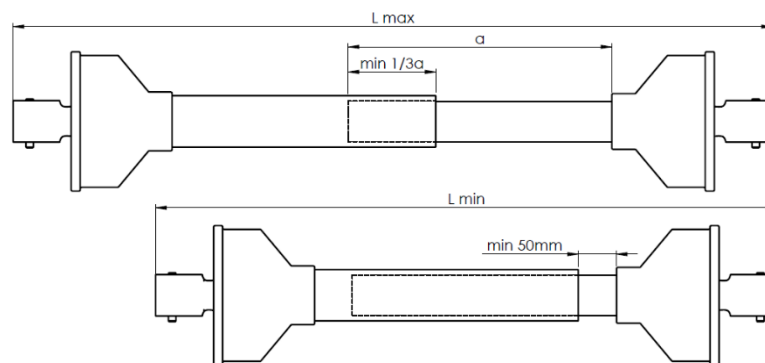

Figure 18 Adjust the length of the PTO shaft when the Spreader is coupled with the tractor
- Make sure that the PTO shaft transmitting power from the tractor has a sufficient length in all possible configurations of the tractor in relation to the machine, when coupled (Figure 18);